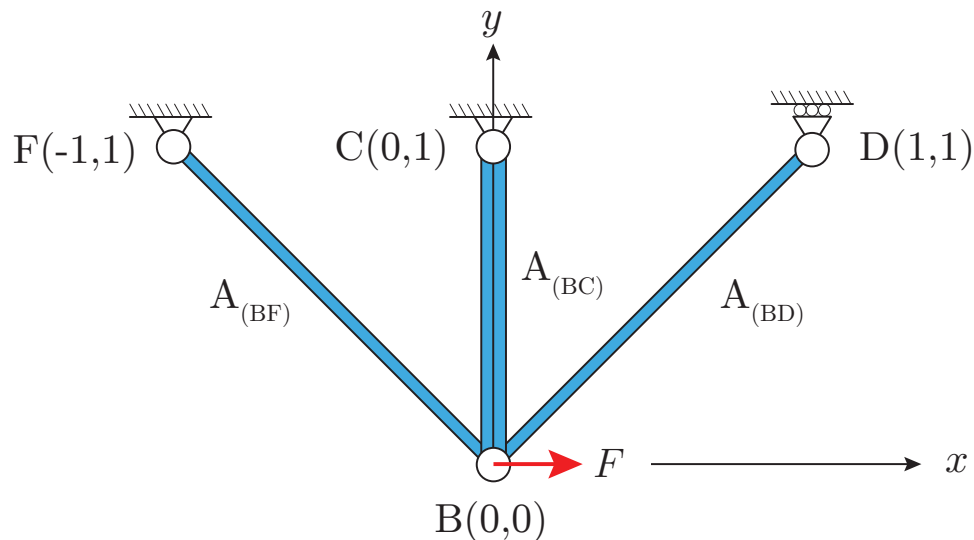

Figure 1: The three bar structure considered in problem 1
**Paper Problem Three bars and a load (40 Points):** Consider the three bar structure shown in Figure 1, which is subjected to the prescribed load at point C equal to  $10kN$ . The bars are made of a linear elastic material whose Young's modulus is  $E = 100GPa$ . The cross sectional area of bar (BC) is  $A_{(BC)} = 200cm^2$  whereas that of (BD) and (BF) is  $A_{(BD)} = A_{(BF)} = 50\sqrt{2}cm^2$ . Coordinates of points shown in the figure are given in meters. *Note that point D is free to move in the x-direction*